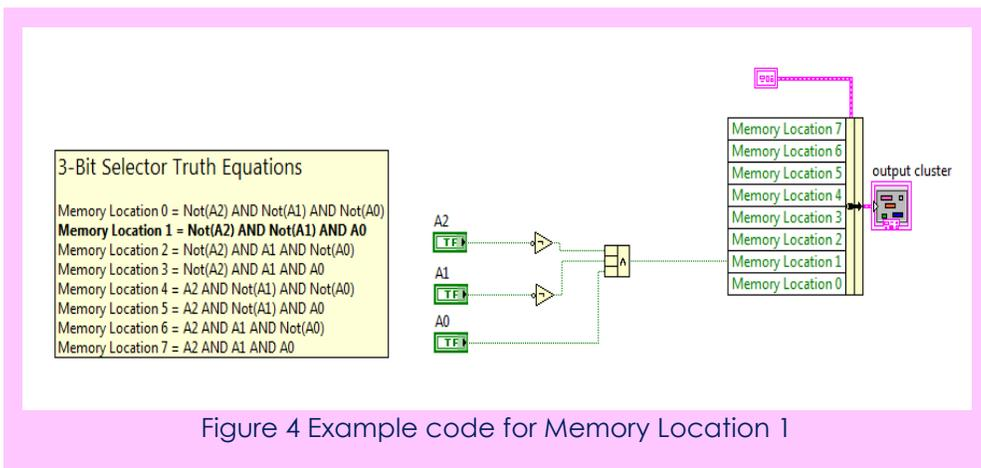

Figure 4 Example code for Memory Location 1
Step 4: Click on the front end of the Compound Arithmetic function and navigate to **Change Mode>>AND**, do this for the remaining seven. Follow the truth equations provided on the block diagram along with Figure 4 for reference to create your 3-bit selector. Once the wiring is completed, plug in test values for the three Boolean inputs to verify your outputs match the truth equations.